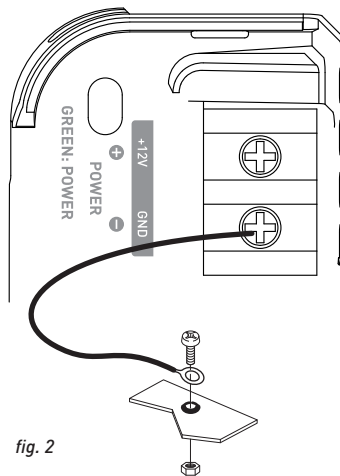

fig. 2
- 10 - Prepare the chassis ground by scraping off any trace of paint on the metal surface in order to ensure proper grounding. The grounding connections should also be as short as possible and ALWAYS connected to metal welded to the body or the chassis of the vehicle (fig. 2). The ground point which is generally chosen is the one connecting the negative terminal of the battery to the chassis of the vehicle.
3.3.2 – Get hold of the negative power cable (-). This cable should be as short as possible and ideally should not be any longer than 1 metre, to ensure a perfect connection between the amplifier and the chassis of the vehicle. The cable and wire gauge must comply with the table in section 3.1. Find a suitable grounding point, then sand it to remove any traces of paint or other coating to maximising the quality of the contact point. Drill a hole in the metal that you have previously sanded, making a hole the same diameter as the screw you are using, making sure that there are no fuel lines, cables or any other sensitive vehicle devices nearby. Crimp the black Y-type spade terminal supplied to the end of the cable. Screw the black Y-type spade terminal firmly to the GND terminal on your FDS amplifier (fig. 2). Tin the other end of the cable and then crimp or solder it onto the intended spade terminal. Insert the screw through the spade terminal, then put the screw and the nut in place and screw tight. **(fig. 2)**